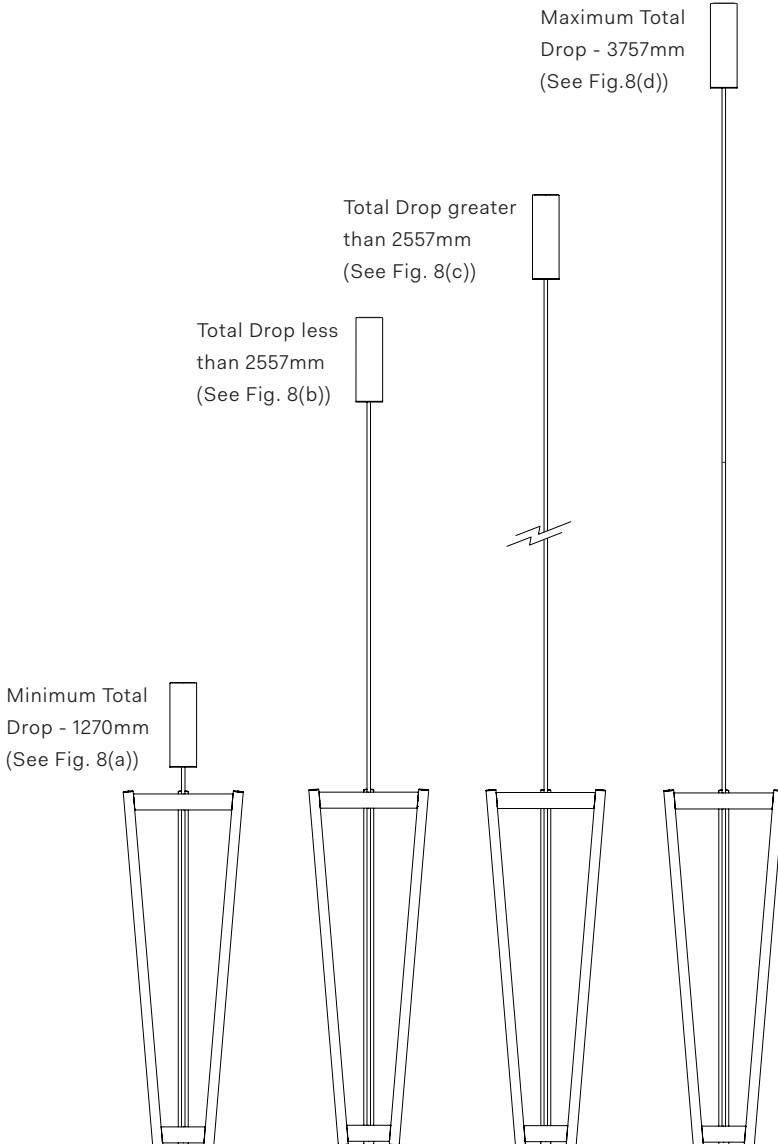

Fig. 8(a) Minimum Total Drop
- Fig. 8(b) will guide you to achieve a total drop of less than 2557mm using only Rod A.
- Fig. 8(c) will guide you to achieve a total drop of greater than 2557mm using Rod A and B.
- Fig. 8(d) will guide you to achieve the Maximum Drop of your fixture.
- Fig. 8(e) and (f) will guide you to ensure ease of assembly.